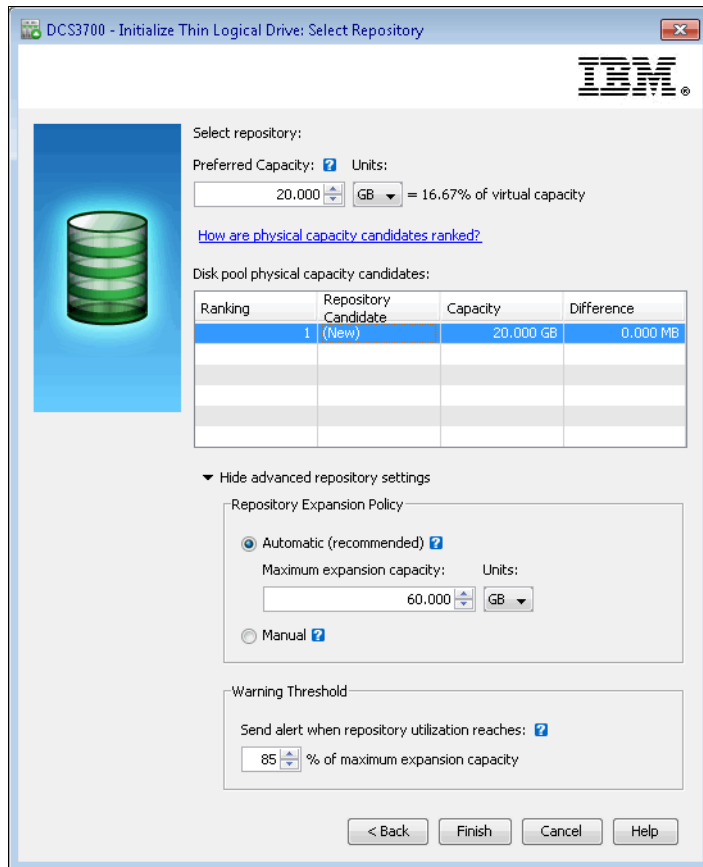

Figure 8-59 Initialize Thin Logical Drive with a different physical capacity
- ▶ **With Different Physical Capacity:** If you want to change the physical capacity of the thin logical drive, this option creates a new repository logical drive and you can optionally change the repository expansion policy and warning threshold. Based on whether you want to keep the current repository for future use (saving initialization time), select or clear the **Delete existing repository** check box, and click **Next**. An option with a different repository appears, as shown in Figure 8-59 on page 284.